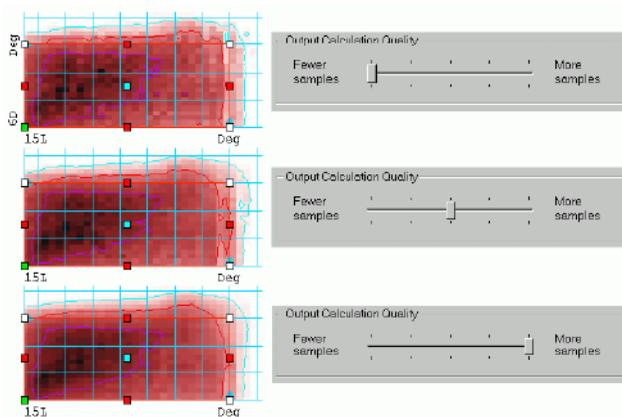

Figure 2.10 Calculated output for segment S7 at three quality settings
- 3 Vary the **Output Calculation Quality** setting, noticing that as quality increases the output becomes smoother and that calculation time increases. Figure 2.10 shows S7's output for three quality settings.